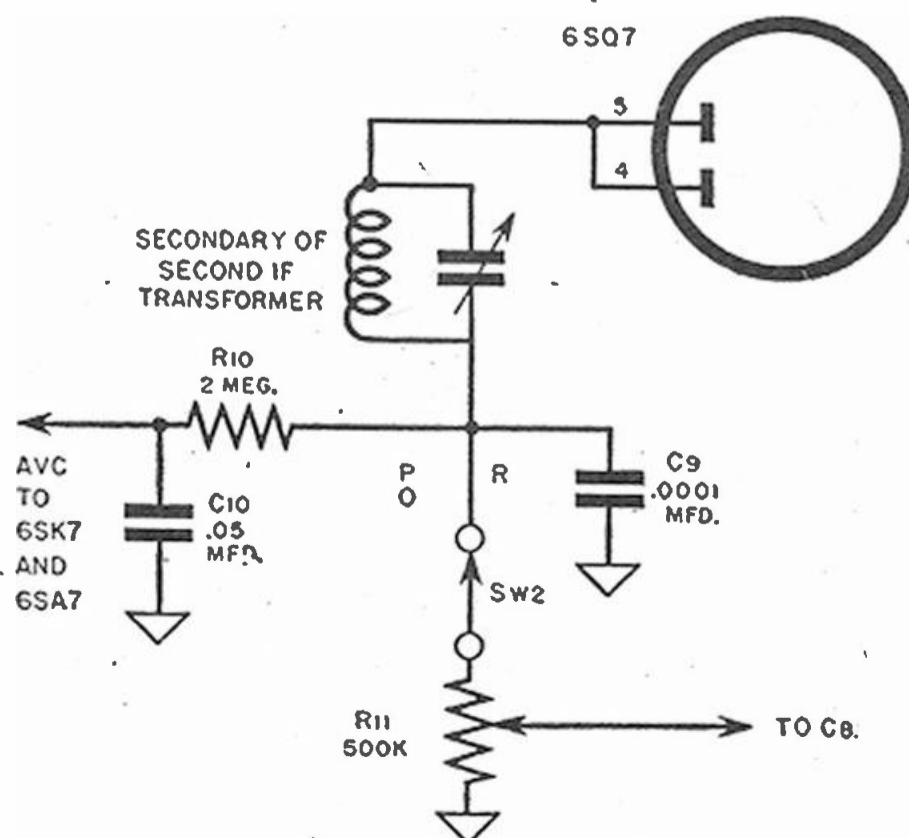
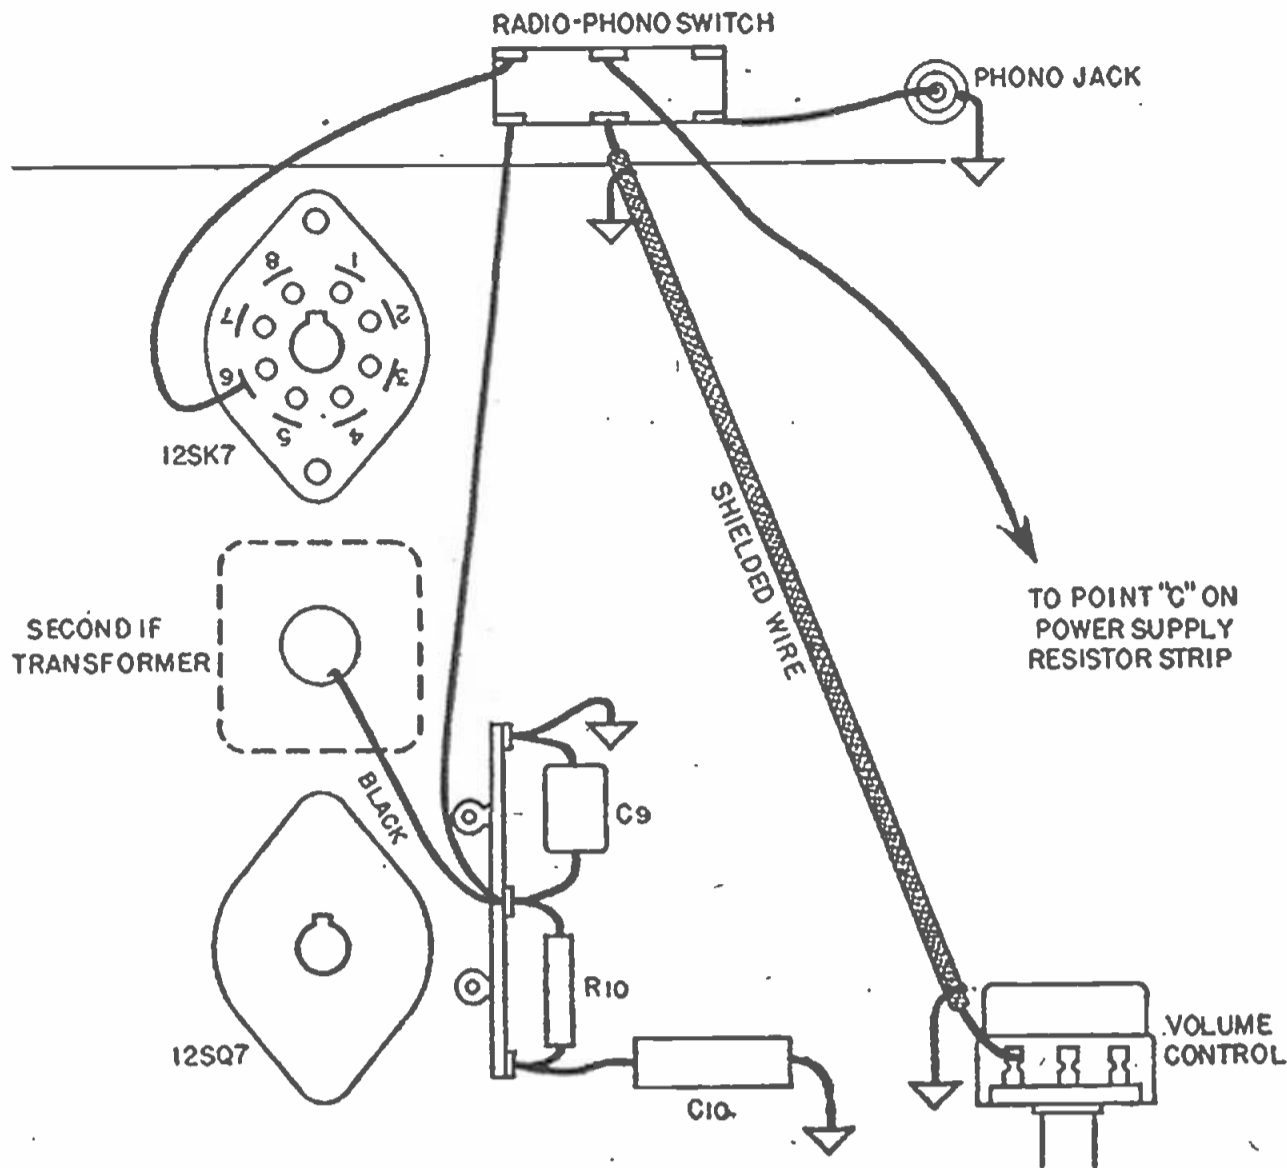
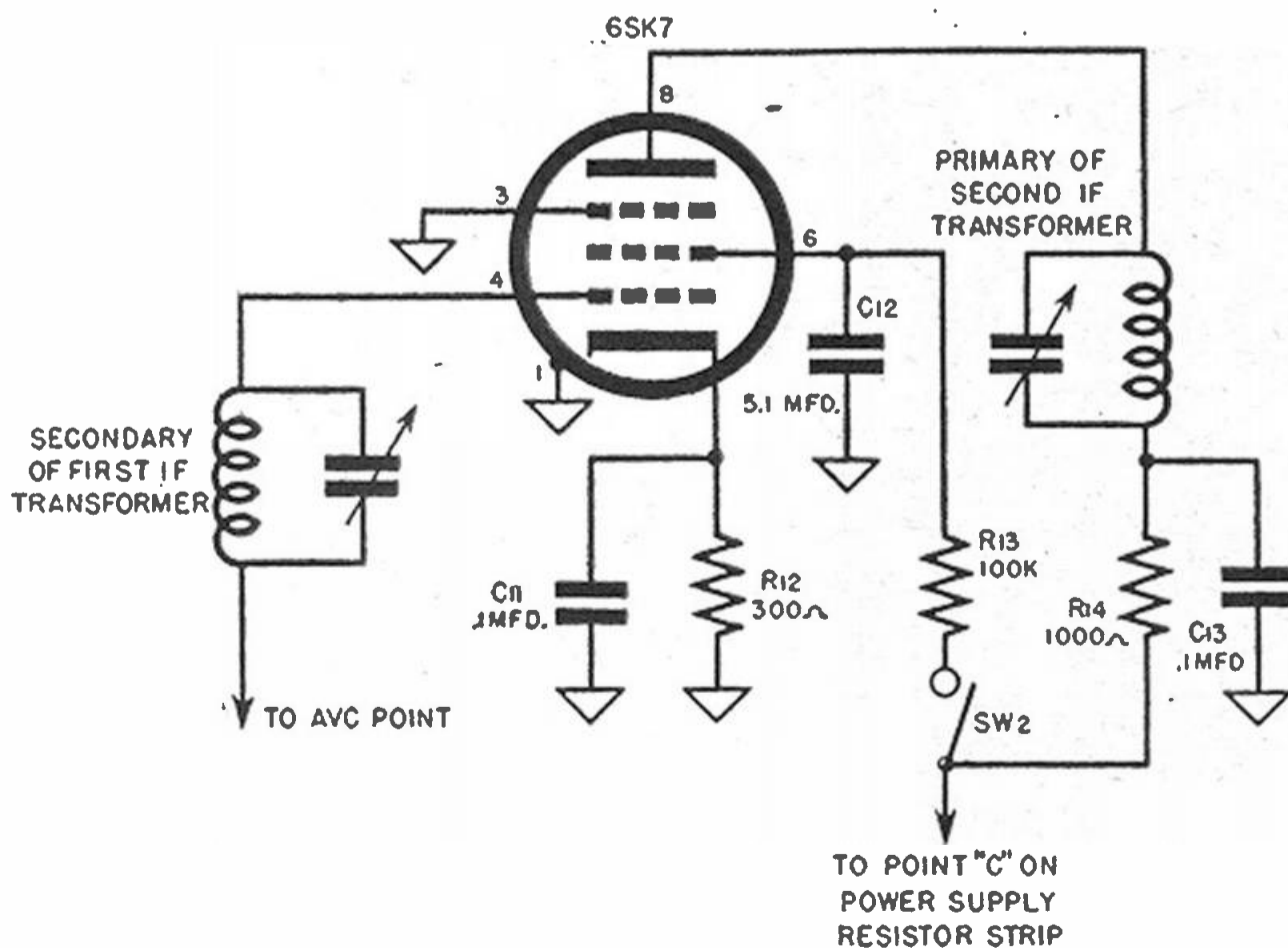

Fig. 2-36. The detector-AVC circuit.
Fig. 2-37. Phono portion of the detector-AVC circuit.
Fig. 2-38. The full i.f. amplifier circuit.
Figure 2-36. Figure 2-37 is a detailed drawing of the phonograph portion. Notice that the wire from the switch to the volume control must be shielded. Use regular shielded wire or, if this is not available, cover a length of stranded, well-insulated wire with woven shielding. Be sure to ground both ends of the shield to chassis.
f) *I.F. Amplifier Circuit.* This circuit includes one set of contacts on the radio-phono switch. The full i.f. amplifier circuit is shown in Figure 2-38. For further details on the switch wiring, refer back to Figure 2-37.